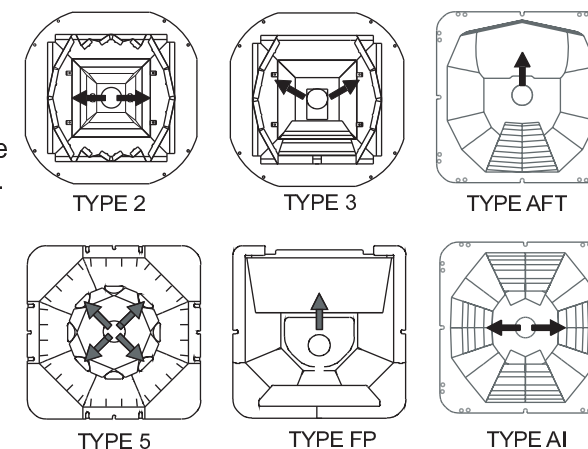

FIGURE 2
12. All reflectors are rotatable in 90 degree increments. Position reflector in housing for desired light direction. Luminaires may be rotated on pole top as well. See Figure 2. Clean surface of reflector, plus inside and outside of lens with soft cloth and non-ammonia, non-static cleaner.
15. Reinstall luminaire cover and (4) screws. Reinstall yoke cap.